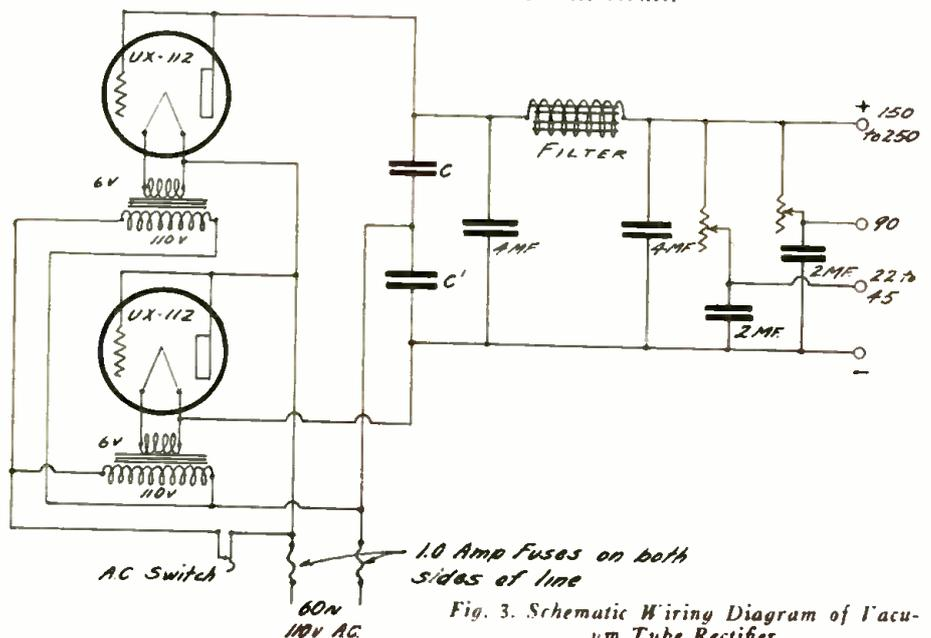

Fig. 3. Schematic Wiring Diagram of Vacuum Tube Rectifier.
- Necessary Bradleyohnis and 2 mfd. condensers according to battery taps required. See Fig. 3.
Fig. 3 shows schematically the layout of the current supply set as finally arranged. It will be noted that separate transformers were used for lighting the filaments of the rectifier tubes. This is necessary, as were a single transformer used, one of the rectifiers would be shorted out. The transformer T shown in Fig. 1 was not used, the 110 volts being taken directly from the house supply.
The general appearance of the B eliminator is shown in the picture. Lay out the apparatus on a baseboard approximately 8x12 in. keeping the rectifier tubes, filament transformers and set shown is a good combination to use, for B supply lead when voltages lower than the UX-112 or UX-216-B tubes. Bradleyohms should be placed in the positive 150 are desired, as shown in Fig. 3. These resistances should be adjusted until the proper voltage is applied to the tubes, which may be determined best with a high resistance voltmeter. If one is not obtainable, and the set with which the eliminator is to be used is now operating of by-pass condensers in one group, and the filter at the other end of the board. If desired, the outfit can be mounted on a panel, so that the adjustments of the Bradleyohms may be more easily made. As the voltages in various parts of the circuit run as high as 250 volts, it would be preferable to wire the parts together with insulated lamp cord, but bus bar wire may be used if it is well insulated with spaghetti.